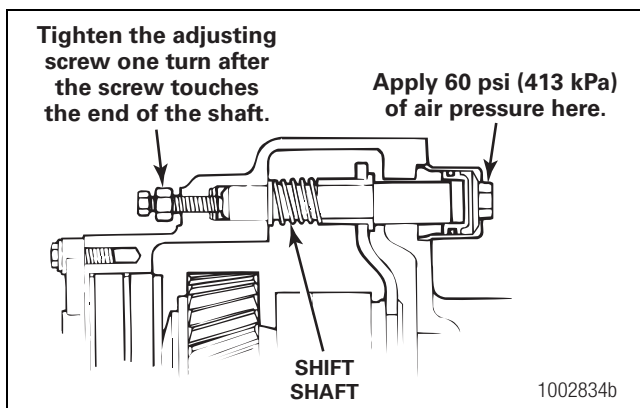

Figure 5.117
- E. When the screw touches the shaft, tighten the adjusting screw an additional one turn. Apply air pressure, then tighten the jam nut. Figure 5.117.
- F. Disengage the inter-axle differential lock by holding the input yoke or flange and rotating the output yoke or flange. The output yoke or flange should rotate with less than 50 lb-ft (67 N•m) of torque applied. ①